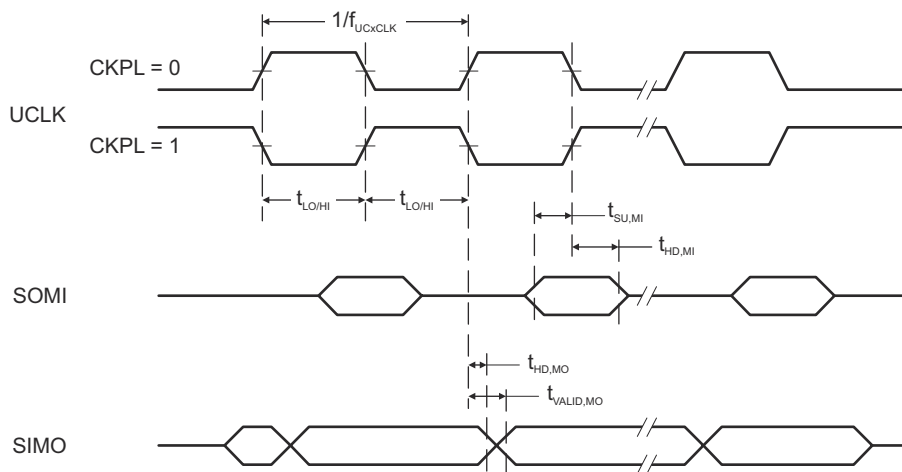
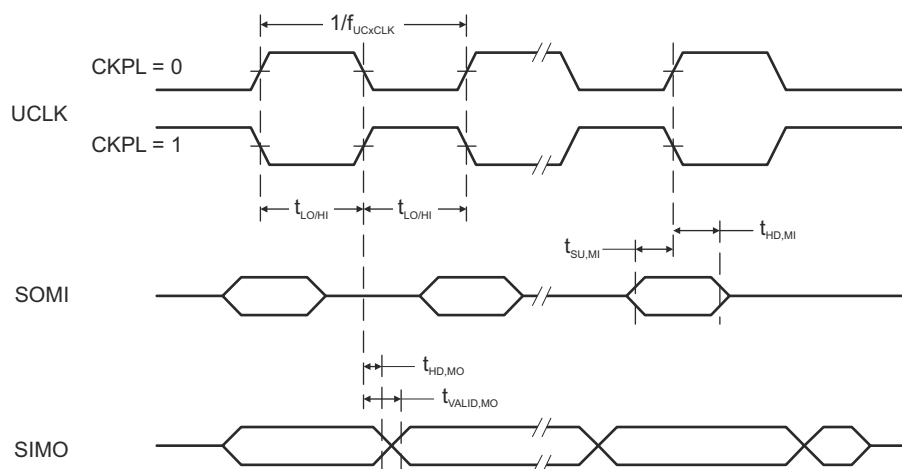

图 8-11. SPI Master Mode, CKPH = 0
图 8-12. SPI Master Mode, CKPH = 1
(see 図 8-11 and 図 8-12)
- (2) Specifies the time to drive the next valid data to the SIMO output after the output changing UCLK clock edge. See the timing diagrams in 図 8-11 and 図 8-12.
- (3) Specifies how long data on the SIMO output is valid after the output changing UCLK clock edge. Negative values indicate that the data on the SIMO output can become invalid before the output changing clock edge observed on UCLK. See the timing diagrams in 図 8-11 and 図 8-12.